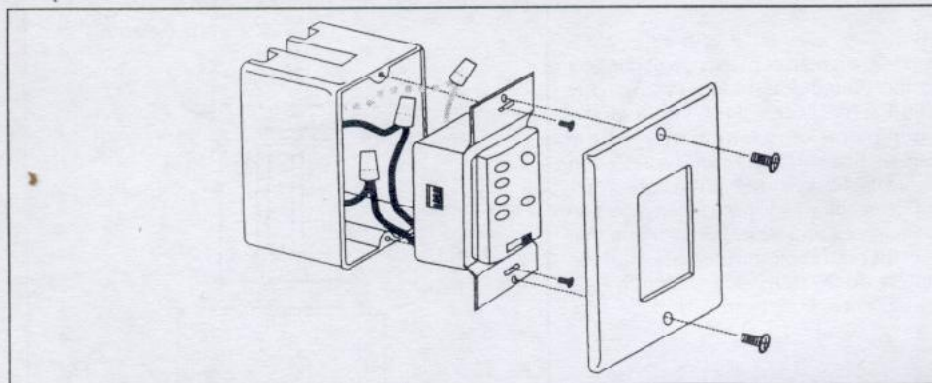

FIG 15
Step 3. (Fig. 15). Carefully tuck the wire connectors inside the junction box. Secure the wall transmitter with the two screws provided. Attach the decorator faceplate over the wall transmitter and secure with the two screws provided.